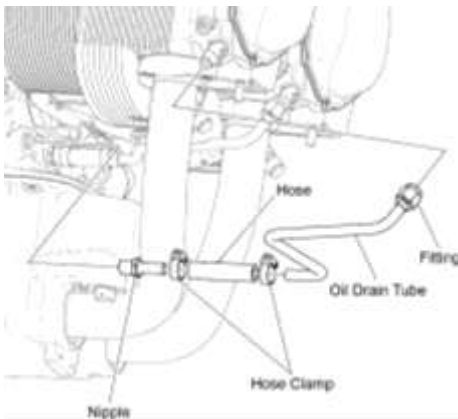

Figure 44
- (1) If a new nipple (Figure 44) is to be installed on the crankcase, apply Loctite® 564 to the threads of the nipple. Torque the nipple to 85 in.-lb. (9.6 Nm).
- (2) Connect a new hose to the nipple in the crankcase.